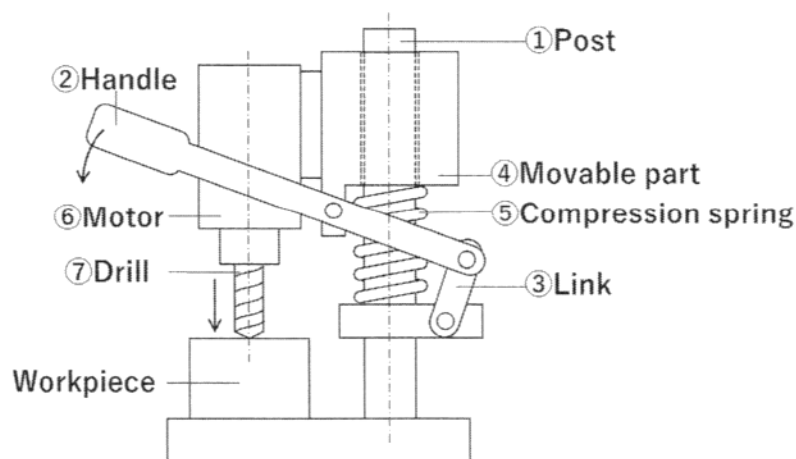

Figure 3-1
I. Figure 3-1 shows a schematic diagram of a drilling machine consisting of parts ①~⑦ while fabricating a workpiece with a downward force on the handle. Answer the following questions.
- (1) Table 3-1 shows the relationships between the parts that directly interact with each other. Describe the relationships corresponding to (a)~(f), respectively, including direction of force or direction of motion restraint, according to the examples (※1) and (※2).
- (2) Describe the functions that the multiple-part combinations (i)②③④ and (ii)①④⑤ have on the parts group ⑥⑦, in around 15 words for each.
- (3) Draw one schematic diagram of a drilling machine that does not use the link mechanism used in Figure 3-1.